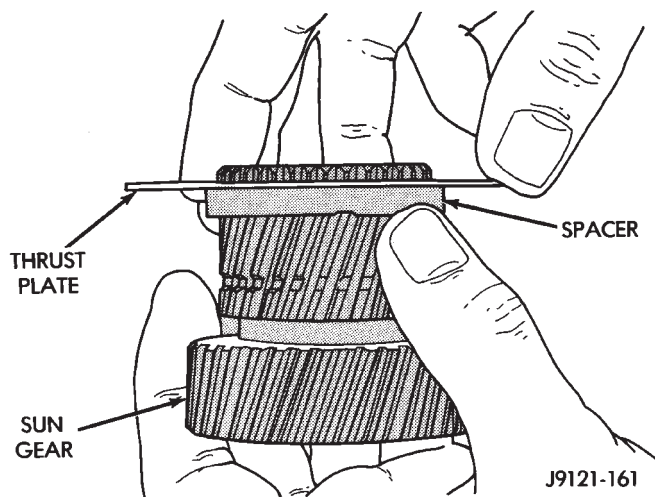

Fig. 156 Installing Driving Shell Front Thrust Plate On Sun Gear
(8) Install thrust plate on sun gear (Fig. 156). Note that driving shell thrust plates are interchangeable. Use either plate on sun gear and at front/rear of shell.